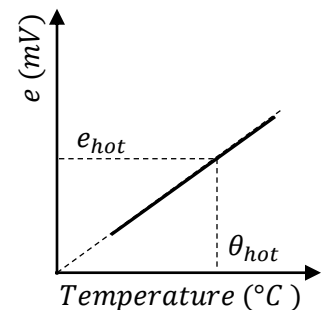

Figure 2: Calibration curve
- Theory:** When one junction of a thermo-couple is kept at 0°C while its other junction is maintained at a higher temperature, thermo-e.m.f e will be developed in the couple. Magnitude of the thermo-e.m.f depends upon the temperature difference between the two junctions (here on the temperature of the hot junction only as the cold junction temperature is 0°C). Variation of the thermo-e.m.f can be studied by plotting the measured thermo-e.m.f using the voltmeter with temperature of the hot junction (i.e., with the temperature difference of its two junctions) measured using the thermometer. The thermo-e.m.f e versus temperature curve should be approximately linear over around up to 90°C . (see Fig. 2) This plot can be used as a calibration curve, and later the hot junction of the thermo-couple can be used as a thermometer. If the hot junction is inserted into a body, a thermo-e.m.f (e_{hot}) will be generated in the thermo-couple, and the temperature (θ_{hot}) corresponding to that thermo-e.m.f can be found from the calibration curve. This thermo-couple thermometer thus also can be used to determine the melting point of a solid following the procedure below.